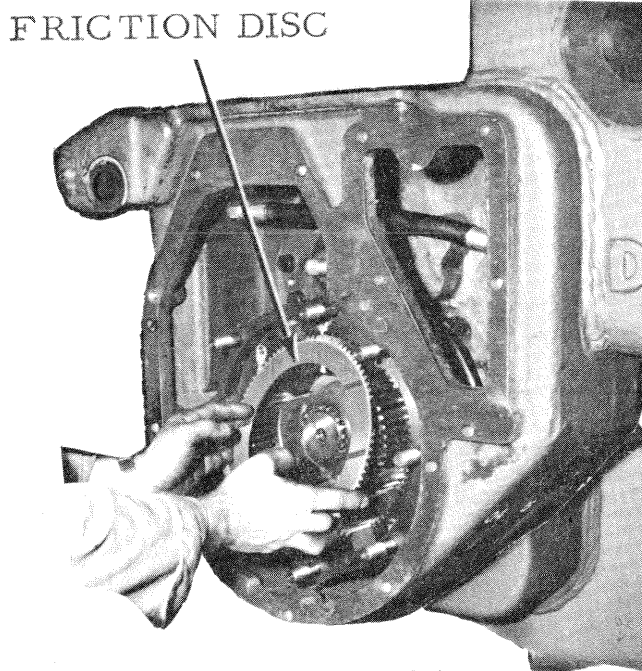

Figure 13
7. Starting with a friction disc, fig. 13, alter-
(1) If thickness is less than 2.220 inches, subtract the difference between 2.220 and pack thickness, from .049 inches, which is the thickness of shim set.
(2) If pack thickness equals 2.220 inches, use all shims provided.
(3) If pack thickness exceeds 2.220 inches, select other friction discs and separator plates so that pack thickness will be less than or equal to 2.220 inches.
8. Place the ring in the cage next and the two dished springs next to it. Fig. 13.